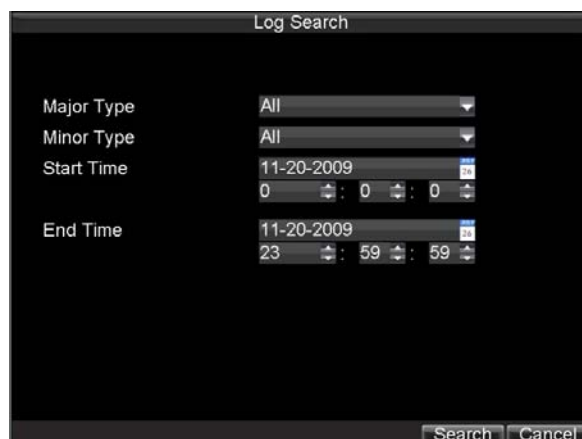

Figure15. Log Search Menu
1. Click Menu > Maintenance > Log Search to enter the Log Search menu, shown in Figure 15.